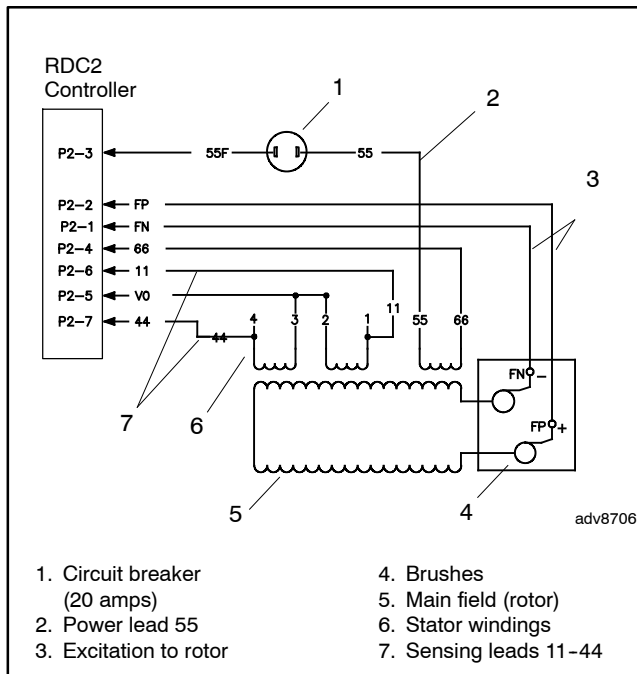

Figure 6-1 Single-Phase Alternator Schematic
The generator set utilizes a rotating-field alternator to produce AC voltage. See Figure 6-1 and Figure 6-2. Refer to Section 8 for the complete generator set schematics.
2. Verify the connections for 55, 55F and 66 per Figure 6-1.